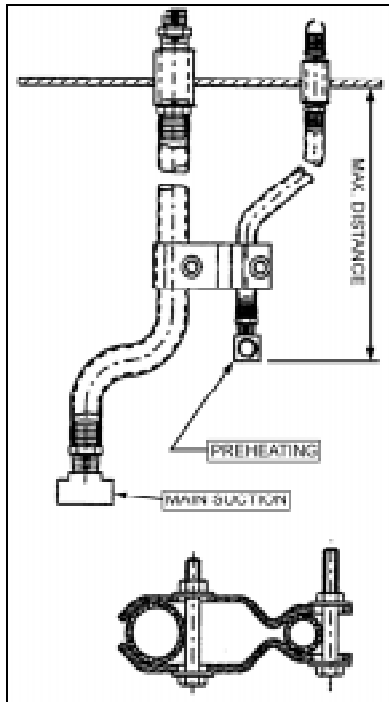
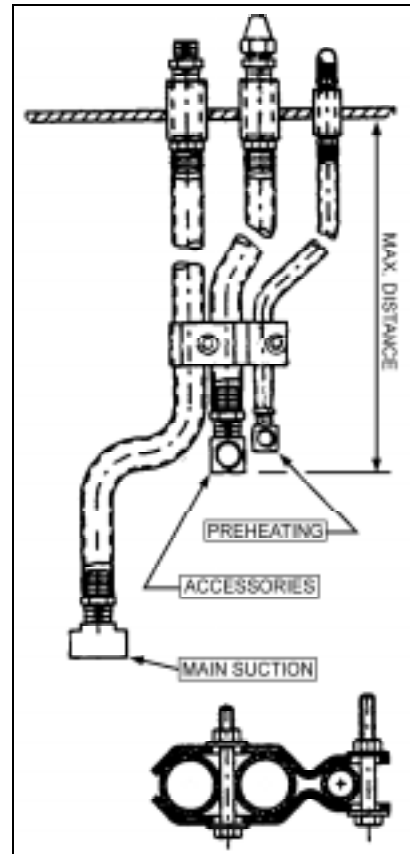

FIGURE 5: TWO (2) HOSES MOUNTING.
FIGURE 6: THREE (3) HOSES MOUNTING.
6. It is possible here to see one (1) or two (2) suction hose(s) added to the **main** suction hose. The purpose of this procedure is to fix the standard **preheat** hose and, if apply, the auxiliary **accessory** hose (present as an option in several V.I.P. and MTH series vehicles) in a way that the end of the one or the two hose(s) mentioned above set at 2 1/2" from the bottom end of the fuel tank (Fig. 5) (Fig. 6). To reach this purpose, it will be necessary to install the provided fastener in the way that when the **main** hose is pulled straight from the connecting plate, we get a measured distance from the concerned hose(s) end(s) and the back face of the connecting plate. This straight distance (every fitting on the hose end included) must be: **27 1/2" max.** for "**H**" series vehicles and **19 1/2" max.** for "**XL**" series vehicles.